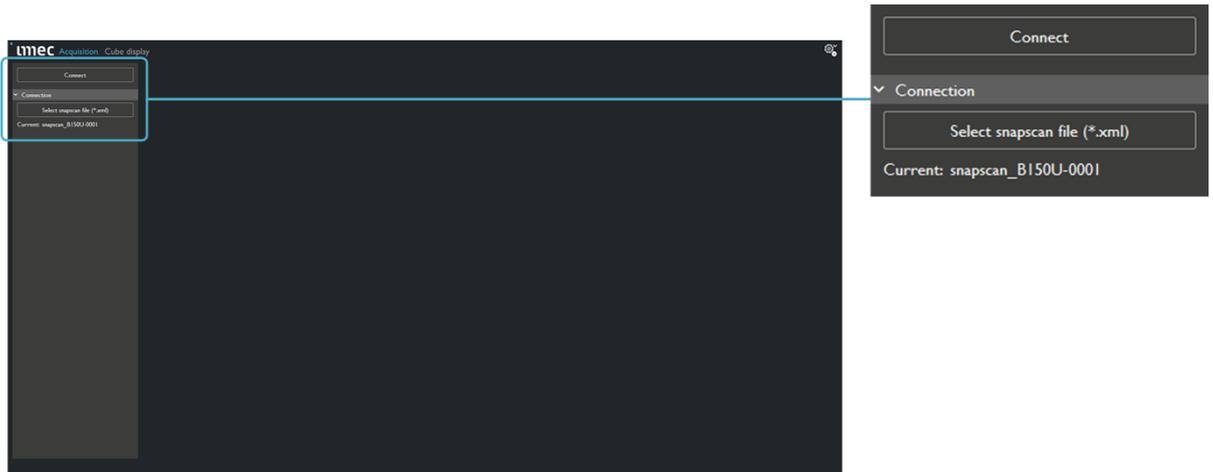

Figure 54 Configure system information file specific to the camera unit
- Configure the software by selecting the *system file* that has been delivered with the camera unit. The software will prompt to select this file when it is launched after the installation, as shown in Figure 54.